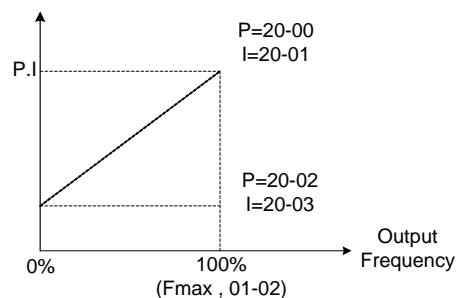

Figure 4.4.110 ASR gain setting (V/F+PG)
In V/F+PG mode, set the proportional (P) gain and integral (I) time at the minimum output frequency (20-02 and 20-03) and maximum output frequency (20-00 and 20-01). Refer to the figure 4.4.110.